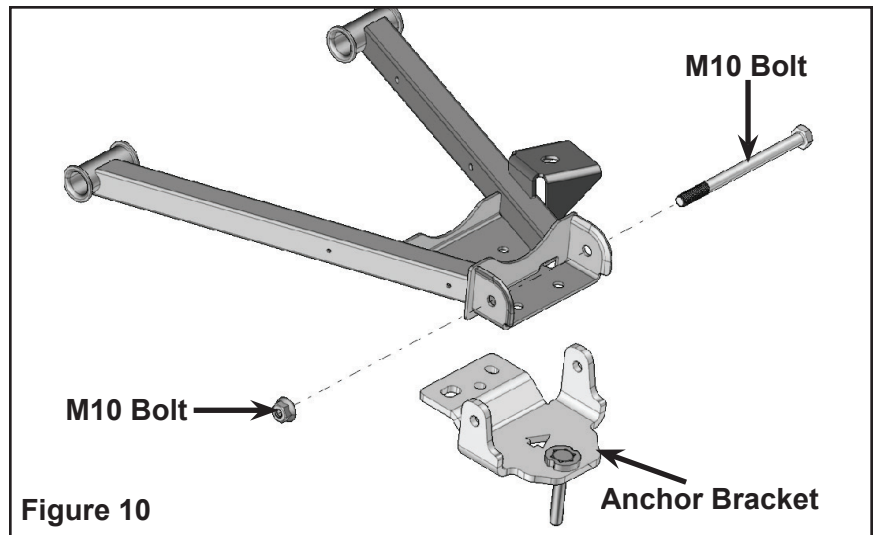

Figure 10
5. Remove the mounting bolt linking the lower suspension arm to the wheel hub. Install the anchor bracket under the suspension arm. Figure 10. Insert the new M10 bolt in the anchor bracket, through the lower suspension arm and the wheel hub. Thread the M10 nut on the bolt but do not tighten it yet. Figure 10a.